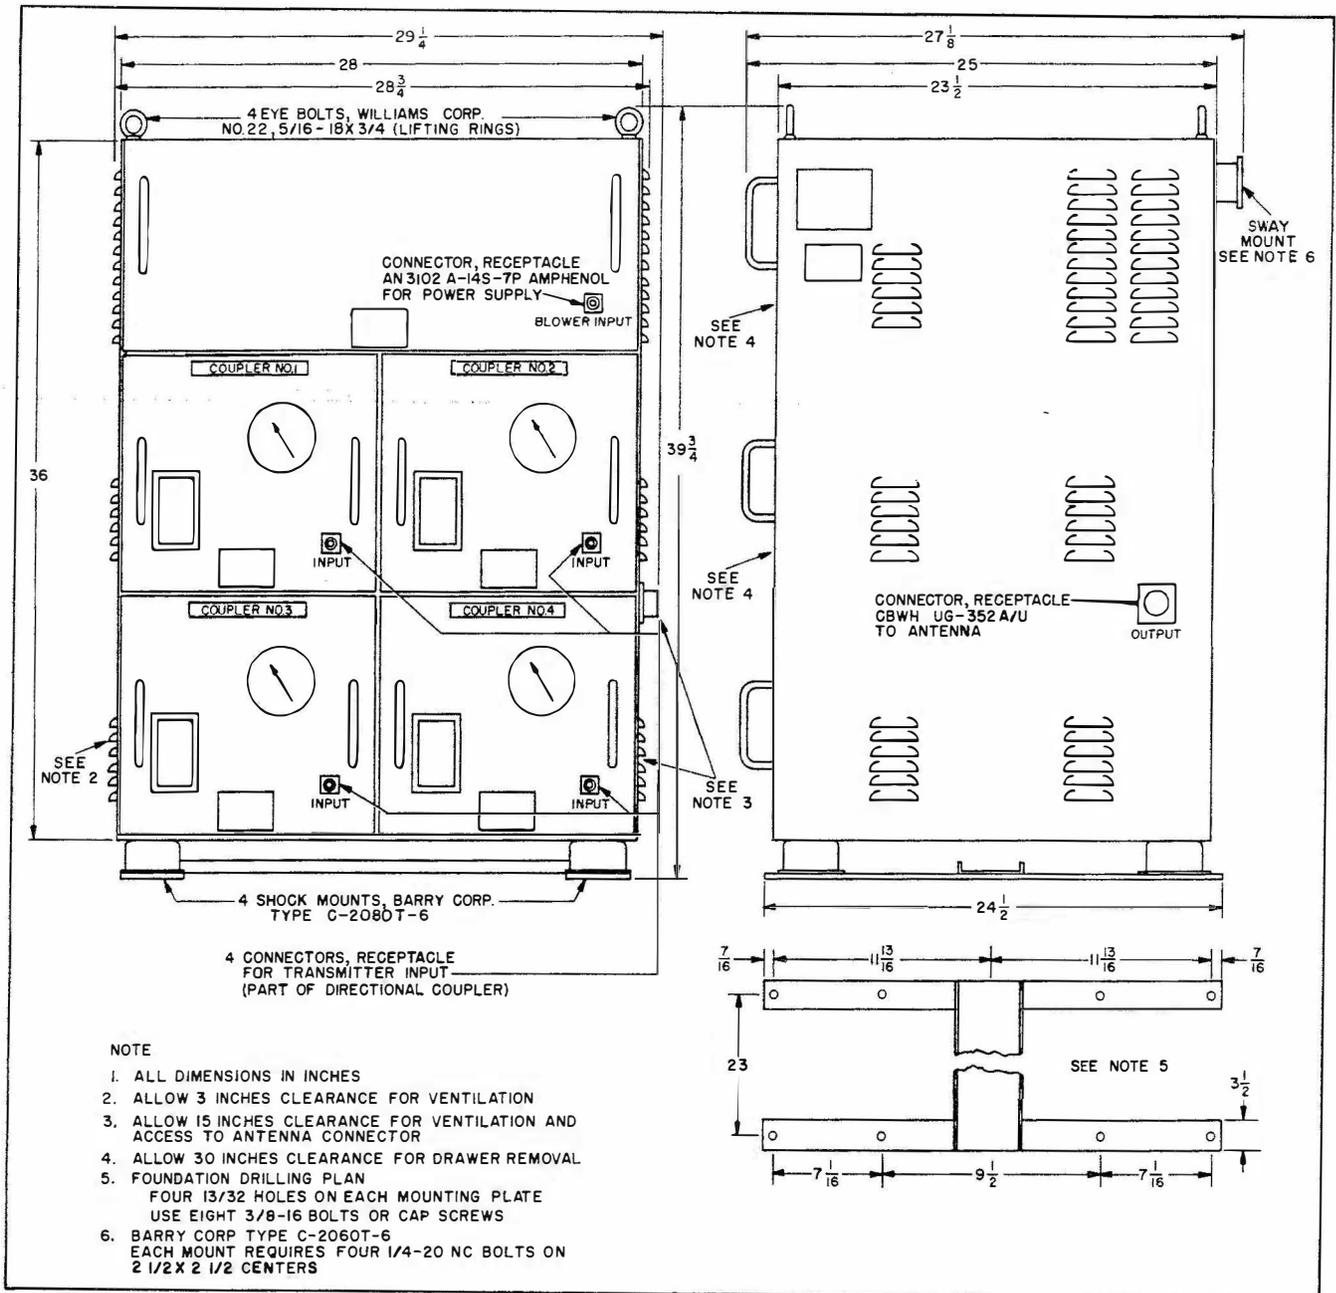

Figure 3-1. Antenna Coupler Group AN/SRA-16, Outline and Mounting Dimensions
b. LOCATION.—See figure 3-1 for an outline and mounting dimension drawing of Cabinet, Electrical Equipment CY-1671/SRA-16.
(1) ANTENNA COUPLERS.—Ascertain that the antenna coupler drawers are inserted in the cabinet in the proper order as shown in figure 3-1, that is COU-